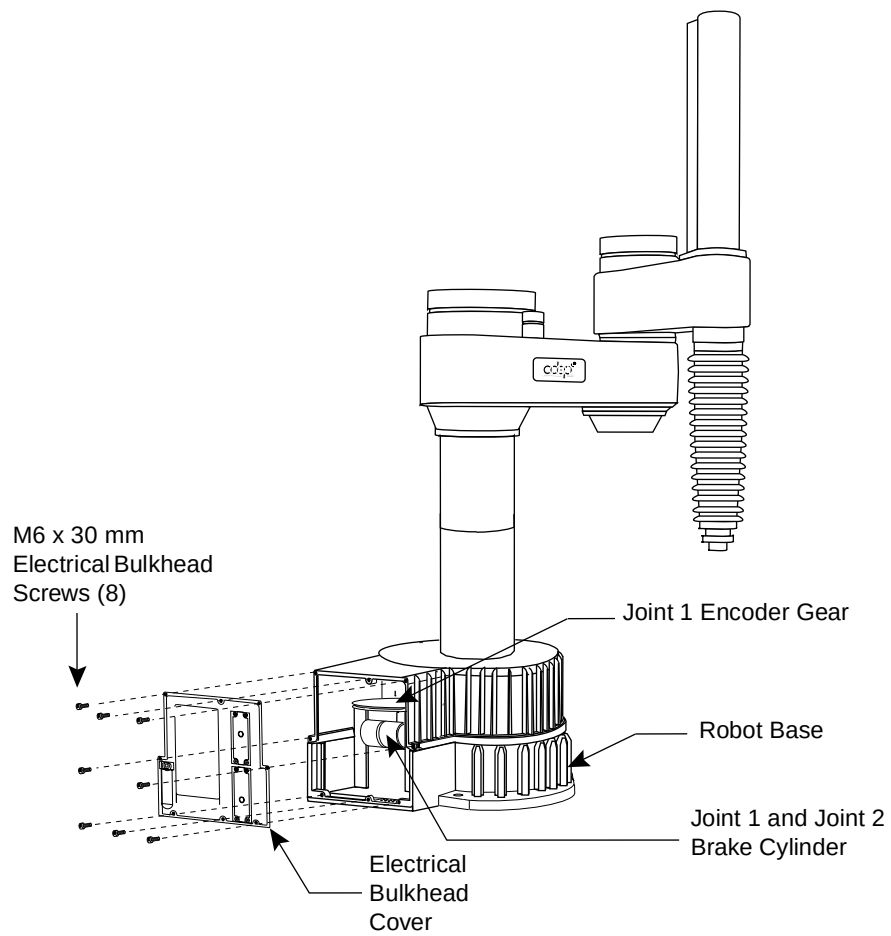

**Figure 10-1. Adept-XL Robot Base Assembly**
2. Remove the eight M6 x 30 mm screws that attach the electrical bulkhead to the base cover and robot base. Remove and support the electrical bulkhead six inches away from the robot base (see Figure 10-1 on page 224). Ensure that no stress is being applied to the internal robot harness.